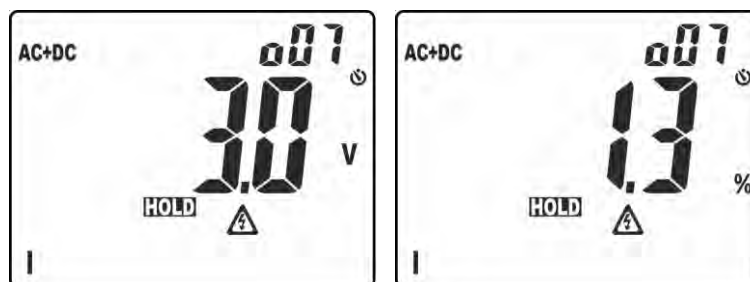

Fig. 4: Display of ordering of amplitude of harmonic analysis
- Long pressing of the key (at least 2s) in order to activate the **H₂O** (**H**igher **H**armonic **O**rdering) ordering function of the amplitude of harmonics. In these conditions, function "HOLD" is automatically activated and symbol "o" appears next to the displayed harmonic order to indicate that the Ordering function is activated. The bargraph is disabled and the instrument shows the value of amplitude of all the harmonics between the DC value and the 25th, fundamental harmonic excluded, in a **decreasing order** starting from the harmonic with the highest amplitude, as shown in Fig. 4
In the example in Fig. 4, the harmonic with the highest value corresponds to the 7th. Press key **▲** to observe the amplitude of the remaining harmonics and press key **H/H%/H █** again to switch between display in absolute and percentage values. Turn the rotary switch to exit the function.